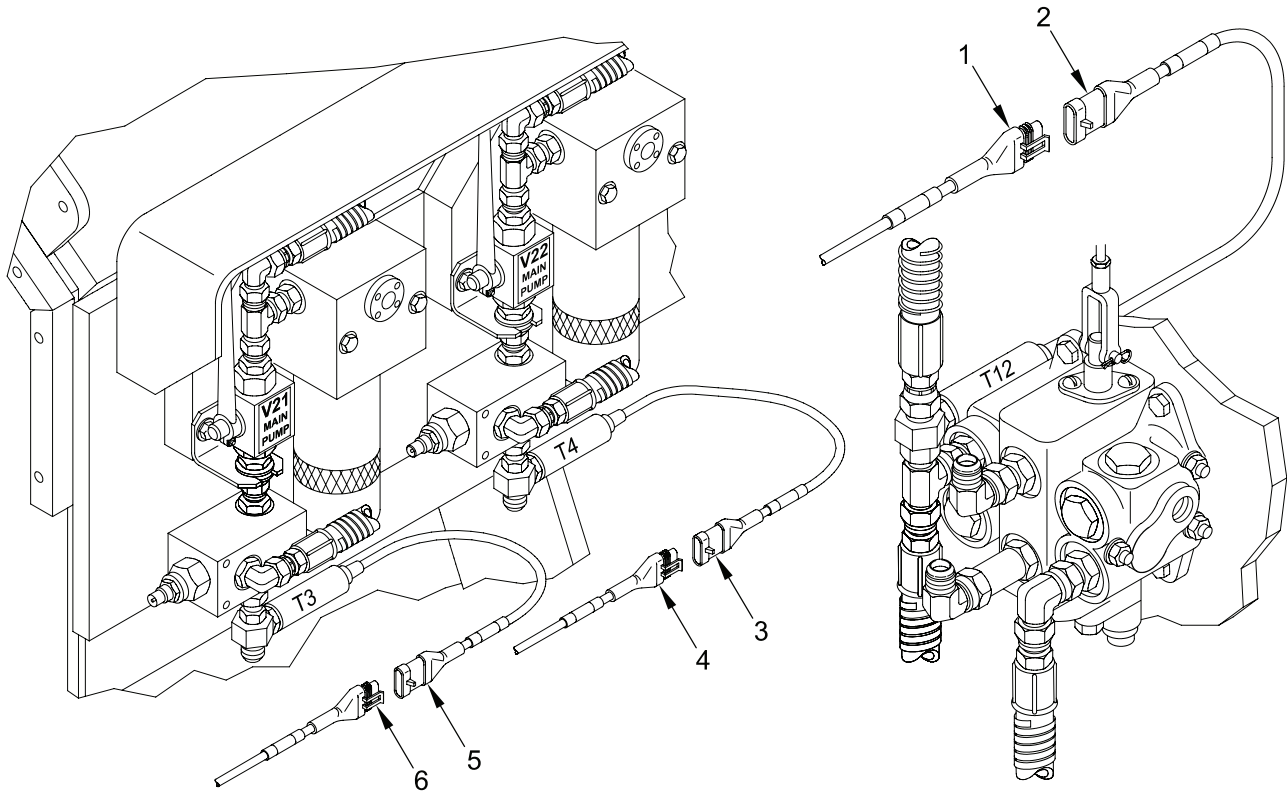

Figure 5. Installing Wiring Harness W2 To Filter Area
6. At the main hydraulic pump left and right high-pressure filter area connect wiring harness W2 connector P3 (Figure 5, item 6) to transducer T3 (Figure 5, item 5), wiring harness W2 connector P4 (Figure 5, item 4) to transducer T4 (Figure 5, item 3), and wiring harness W2 connector P30 (Figure 5, item 1) to transducer T12 (Figure 5, item 2).